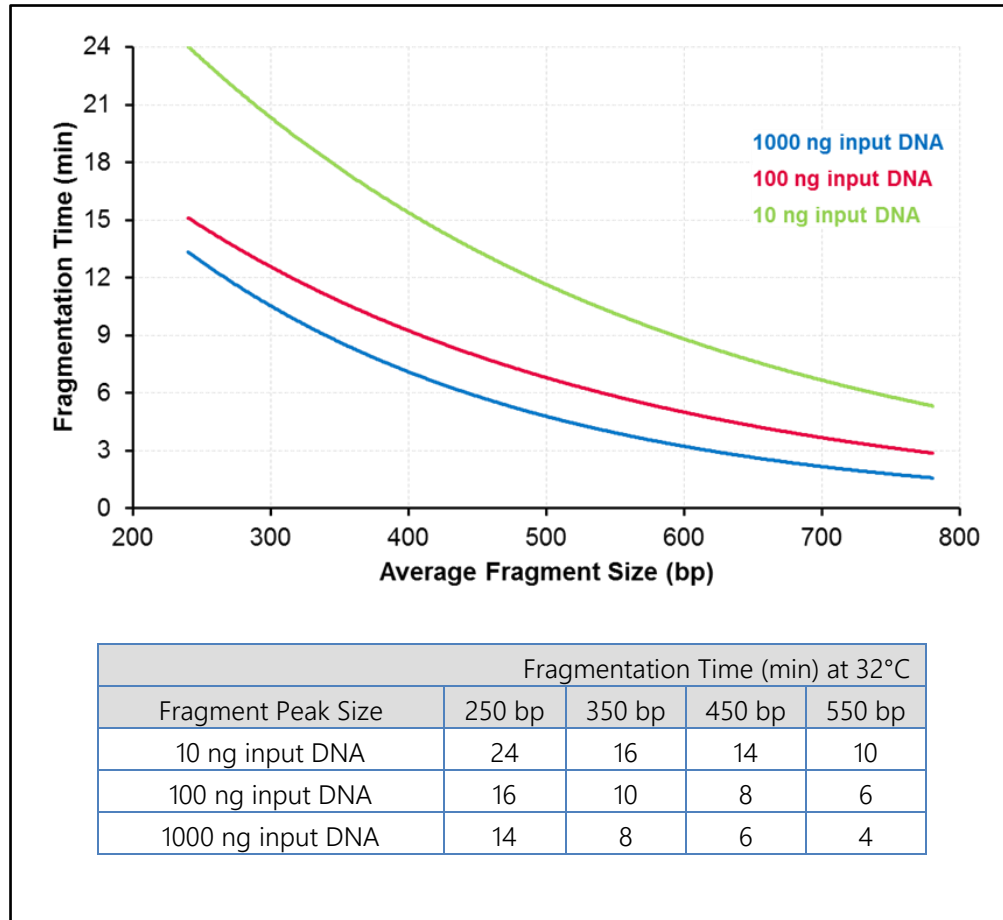

Figure 1: Guidelines for Tuning Fragmentation Size
A key feature of the sparQ DNA Fragmentation & Library Preparation Kit is that the average size of DNA fragments is tunable based on sample type, reaction time, and input amount. Since the source and amount of your experimental sample DNA will differ from any control DNA, optimal reaction conditions should be determined empirically. Figure 1 (page 14) provide guidance on initial incubation times to test based on DNA input amount. To find the optimal conditions that yield the desired fragment size, we recommend testing timepoints at and around the time determined from Figure 1. This fragmentation tuning protocol involves the testing of three incubation times. This is done by adding samples to a thermal block at each test time so that all reactions are completed simultaneously. Samples are collected and purified immediately after the fragmentation and DNA polishing reaction. Bioanalyzer analysis of the collected samples will confirm if one of the timepoints yielded the desired fragmentation profile.
The optimal incubation time to obtain the desired fragment size for the experimental sample DNA must be determined. The chart and table of Figure 1 provide guidelines of incubation times and expected sizes based on input amount.
- 1.1 Using the table and chart in Figure 1, select an incubation time likely to generate fragments of the desired size of your experimental DNA sample. Refer to this time as T-opt. Include two additional time points at 3 minutes shorter and 3 minutes longer than T-opt. Refer to these as T-short and T-long, respectively.
T-opt	Optimal incubation time determined from Figure 1